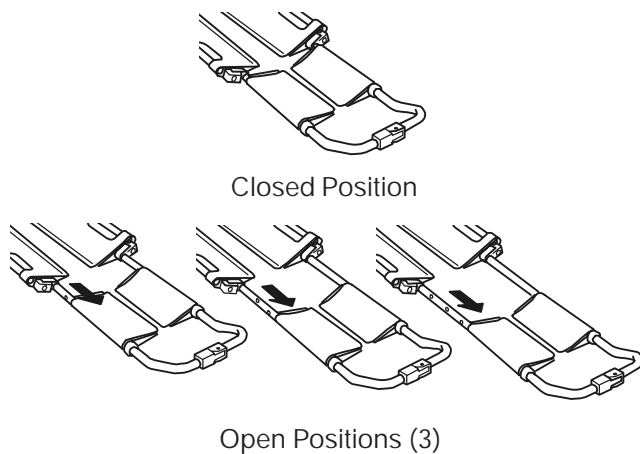

Figure 2 - Foot Section Positions
2. Pull the foot section outward, stopping just past a locking position (Figure 2). Locking positions are located at the holes along the foot-section frame.